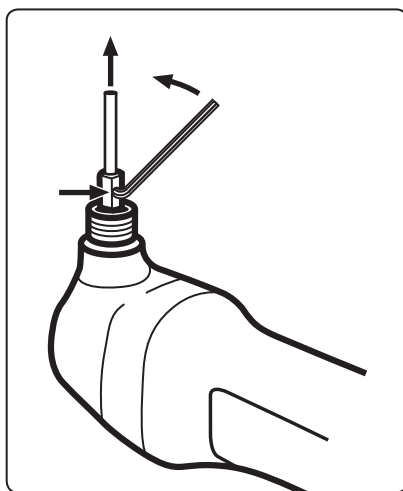

Fig. 5
2. Using a hex key, loosen the die and take it out of the the holder (fig. 5).